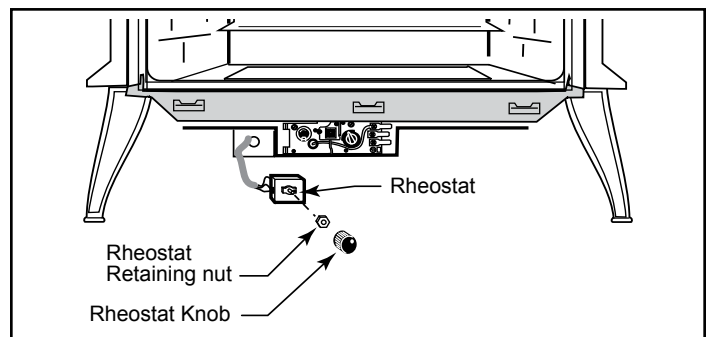

Figure 9 - Attach fan rheostat.
3. The rheostat control switch attaches to the left side of the valve bracket at the front of the stove. (Figure 9)